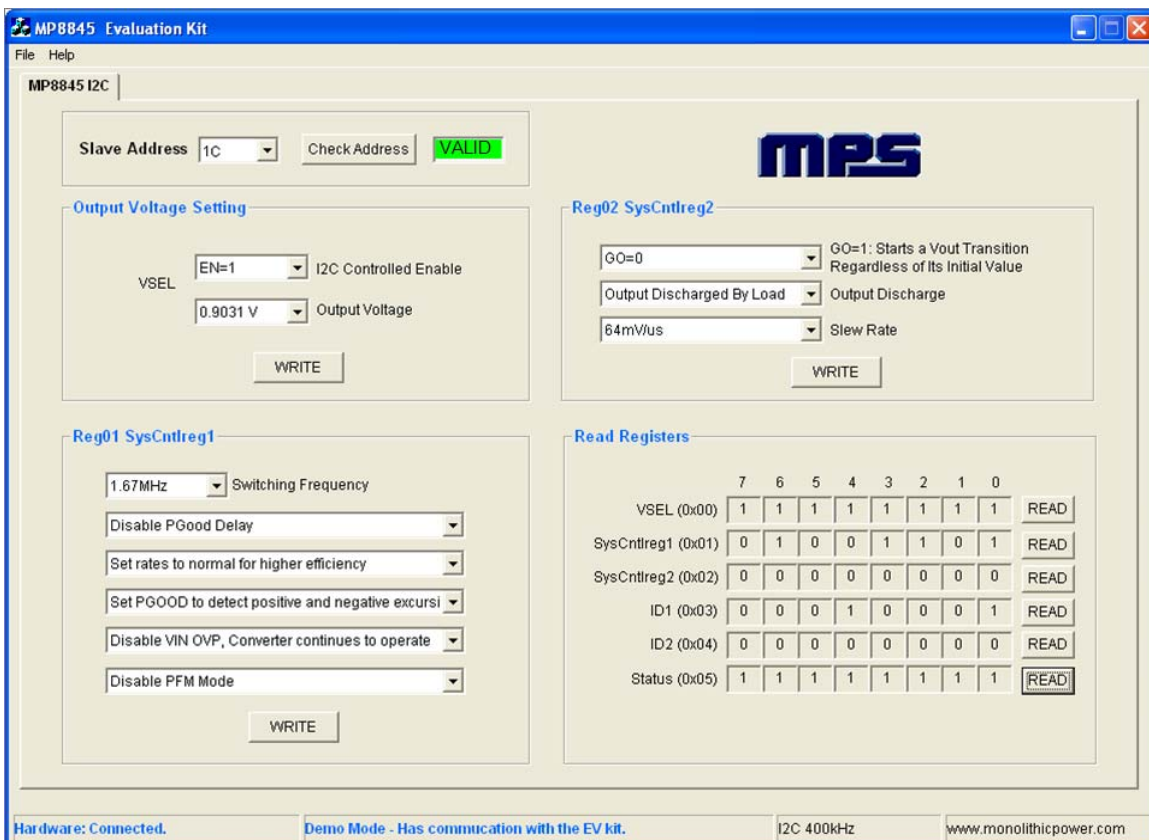

Figure 9—MP8845C control interface
8. Run MP8845C software, fill slave address 1C, and check address, when it shows VALID and the color turns to green, I2C GUI interface can achieve control of MP8845C. MP8845C I2C control interface is showed in figure 9.